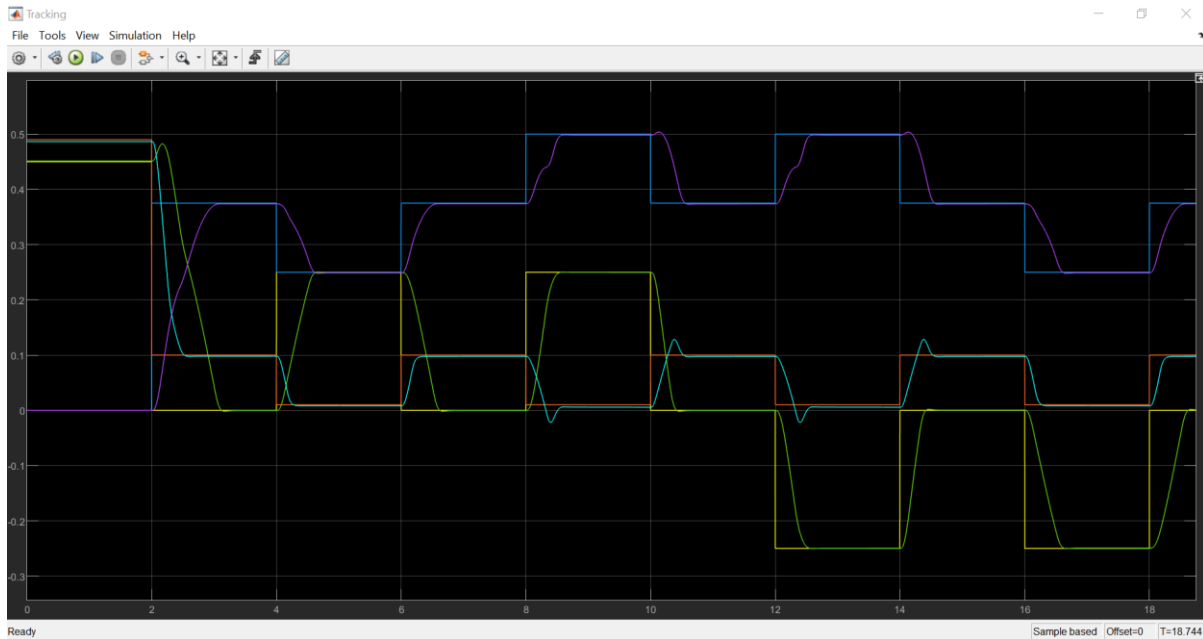

Figure 2.5: Sample result showing commanded and actual end-effector positions
- Use the Tracking scope to monitor the desired and actual end-effector positions as the manipulator follows the learned waypoints. Sample results are shown in Figure 2.5.